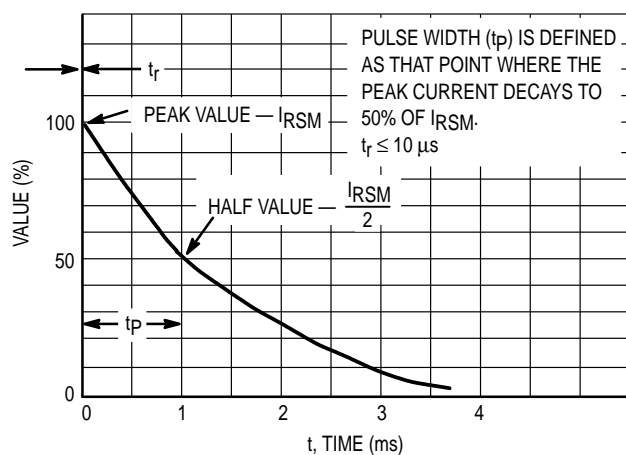
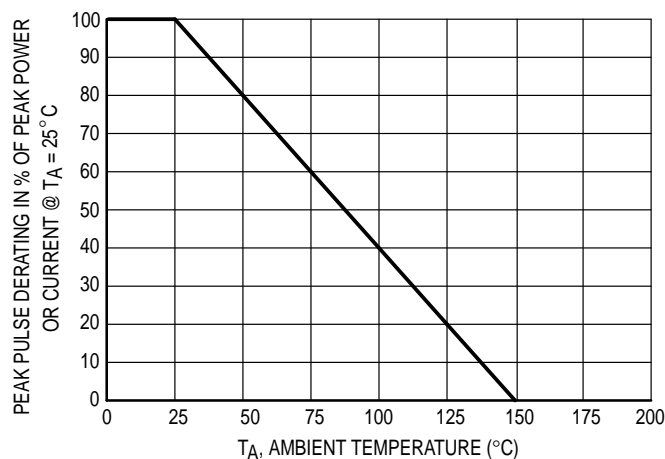

Figure 5. Pulse Waveform
Figure 6. Pulse Derating Curve
- Peak Power — 24 or 40 Watts @ 1.0 ms (Unidirectional), per Figure 5 Waveform
(1) Non-repetitive current pulse per Figure 5 and derate above $T_A = 25^\circ\text{C}$ per Figure 6.
(2) FR-5 = 1.0 x 0.75 x 0.62 in.
(3) Alumina = 0.4 x 0.3 x 0.024 in., 99.5% alumina
(3) V_Z/V_{BR} measured at pulse test current I_T at an ambient temperature of 25°C .
(4) Surge current waveform per Figure 5 and derate per Figure 6.
(5) Z_{ZT} and Z_{ZK} are measured by dividing the AC voltage drop across the device by the AC current supplied. The specified limits are $I_Z(\text{AC}) = 0.1 I_Z(\text{DC})$, with AC frequency = 1 kHz.